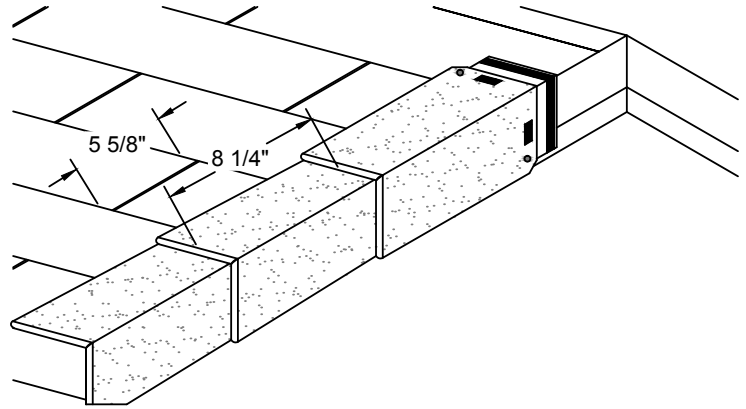

Figure 12 - Application of EZ-Ridge™ Shingles on Rake Edges of the Roof
2. Have the high-profile, finished end of EZ-Ridge™ shingles in the lowest position. (See Figure 12)